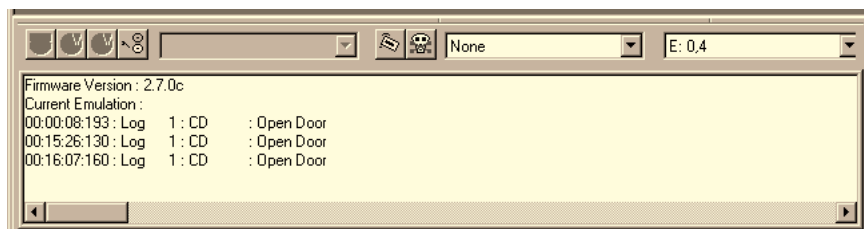

Figure 5.6 *The Control & Log window*
- 16) Locate the four icons in the task bar of the `Control & Log` window, which appears in the bottom part of the GDWorkshop window (Figure 5.6). The rightmost icon in the `Control & Log` window's task bar (the one made up of two circles and a line) shows a switch that can point to either one of two circles: a yellow circle, which represents a disk, and a gray circle, which represents emulation mode. Point the switch up - away from the yellow circle and toward the emulation mode circle - as shown in the illustration.